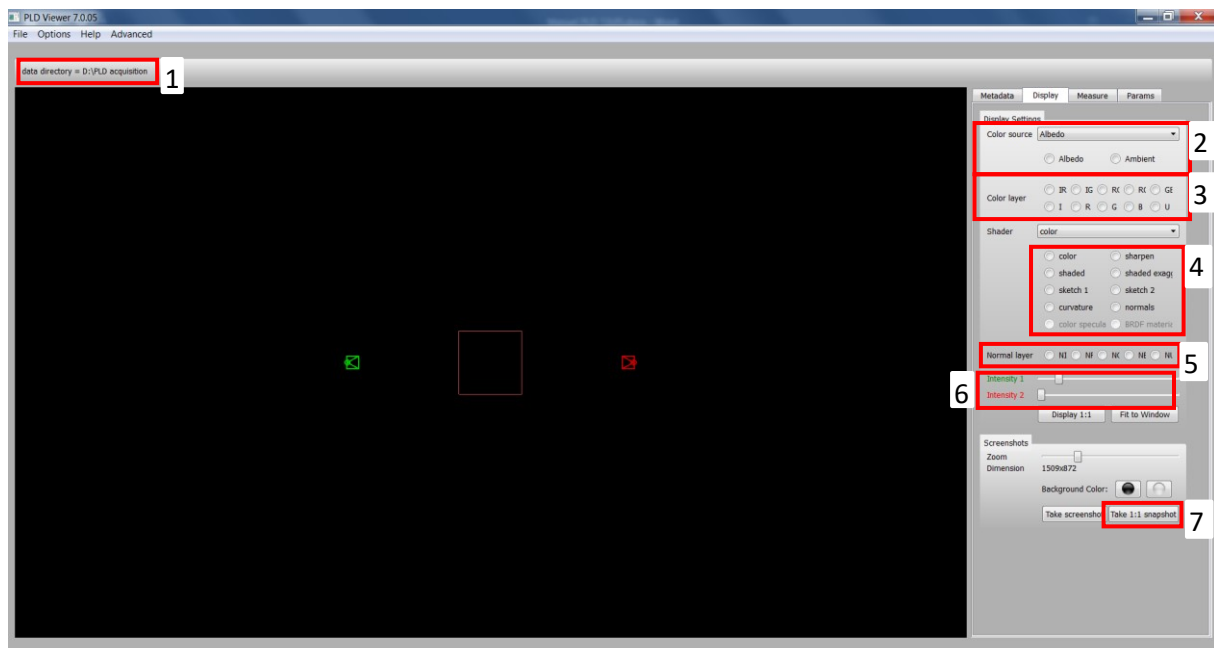

Fig. 1 - The viewing interface when opened, before uploading a dataset
⁵ To open a cfd-file, you must first determine where that data is to be found on/via your computer system: 'File/Select data directory' and choose the folder in which the cfd-file and subfolder with all the other information on that item is stored, that file and that subfolder will have the same name. The data directory which has been selected can be seen in Fig. 1: frame 1 in this manual. Finally, to upload the uncompressed dataset via a cfd-file in the desktop viewer interface: 'File/Load digitized object' or 'Ctrl+A'.
Under 'Help/Controls' all the important viewing controls to be used with the help of the mouse and keyboard are being listed: For each recorded face it can be turned 90 by 90 degrees (shift+scroll); one can pan over the surface (shift+left button mouse); zoom (scroll) and virtually relight. The relighting can be performed with the help of two virtual light sources: colored green and red; the intensity of both light sources can be changed with two (again green and red) slide bars (see Fig. 1: frame 6). By clicking the left button on the mouse the green and red icons of the two virtual light sources can be dragged all over the viewing zone. By doing so, the angle of these light sources towards the surface change accordingly (=virtual relighting).
- An uploaded item (dataset) can be viewed with different '**Color sources**' (see Fig. 1: frame 2); this defines the general conditions in which the recorded surface in the viewer interface will be illuminated. In PLDviewer7.0.05 two color sources are incorporated: Albedo and Ambient. The albedo gives the diffuse reflection of the surface only, whereas ambient lighting illuminates the surface as if it lays in an actual room, wherein the available light (independent from the by the PLD system managed and directed light sources) plays its role as well in the illumination of the surface. In most cases, the ambient color source will represent the surface more like how it appears to the human eye. Both the WL and MS datasets can be viewed with those color sources.
- The '**Color layers**' (see Fig. 1: frame 3) have been specifically developed for the MS datasets. They allow to consult the results with the separately computed information from the different spectral bands, that is the reflective data. In row 1. five different false colors can be generated, as the three color channels are being combined across the information of the five spectral bands; from left to right: IRG (IR-Red-Green); IGB (IR-Green-Blue); RGB (i.e. resemble a normal visual representation); RGU (Red-Green-UV); GBU (Green-Blue-UV). In row 2. the reflective data of the five bands can be visualized separately.
- All of the WL and MS datasets can be visualized with the help of various '**Shaders**' (see Fig. 1: frame 4).⁷ The standard setting is a visualization in RGB (see above *color layers*), with the color source (also see above) Albedo and with the 'color' shader activated. When the different shaders are activated, the function of the slide bars – as highlighted in Fig. 1: frame 6 – change as well (no longer for both the function will be intensity, as what is the standard setting for the color shader).
- Specifically developed and only useful for the MS datasets are the '**Normal layers**' (see Fig. 1: frame 5). The geometrical data derived from the MS recordings is stored in the (un)compressed datasets in five (in concordance to the 5 applied spectral bands) separately computed normal maps. Via 'normal layers' these five results in IR, R, G, B & UV can be activated. In combination with the shaders that will each time influence the results. Remark: the normal map based on the IR sub-dataset will represent an estimation of the surface's geometry deeper into the surface compared to the normal maps based on the datasets which have used spectral bands with shorter waves, so towards blue and ultraviolet.
At any moment during the viewing process with the various color, shader and normal tools a full quality screenshot of what is seen in the viewing zone can be generated. To do so, click the 'Take 1:1 snapshot' button (see Fig. 1: frame 7). In a pop-up save as... window the location and file name for a